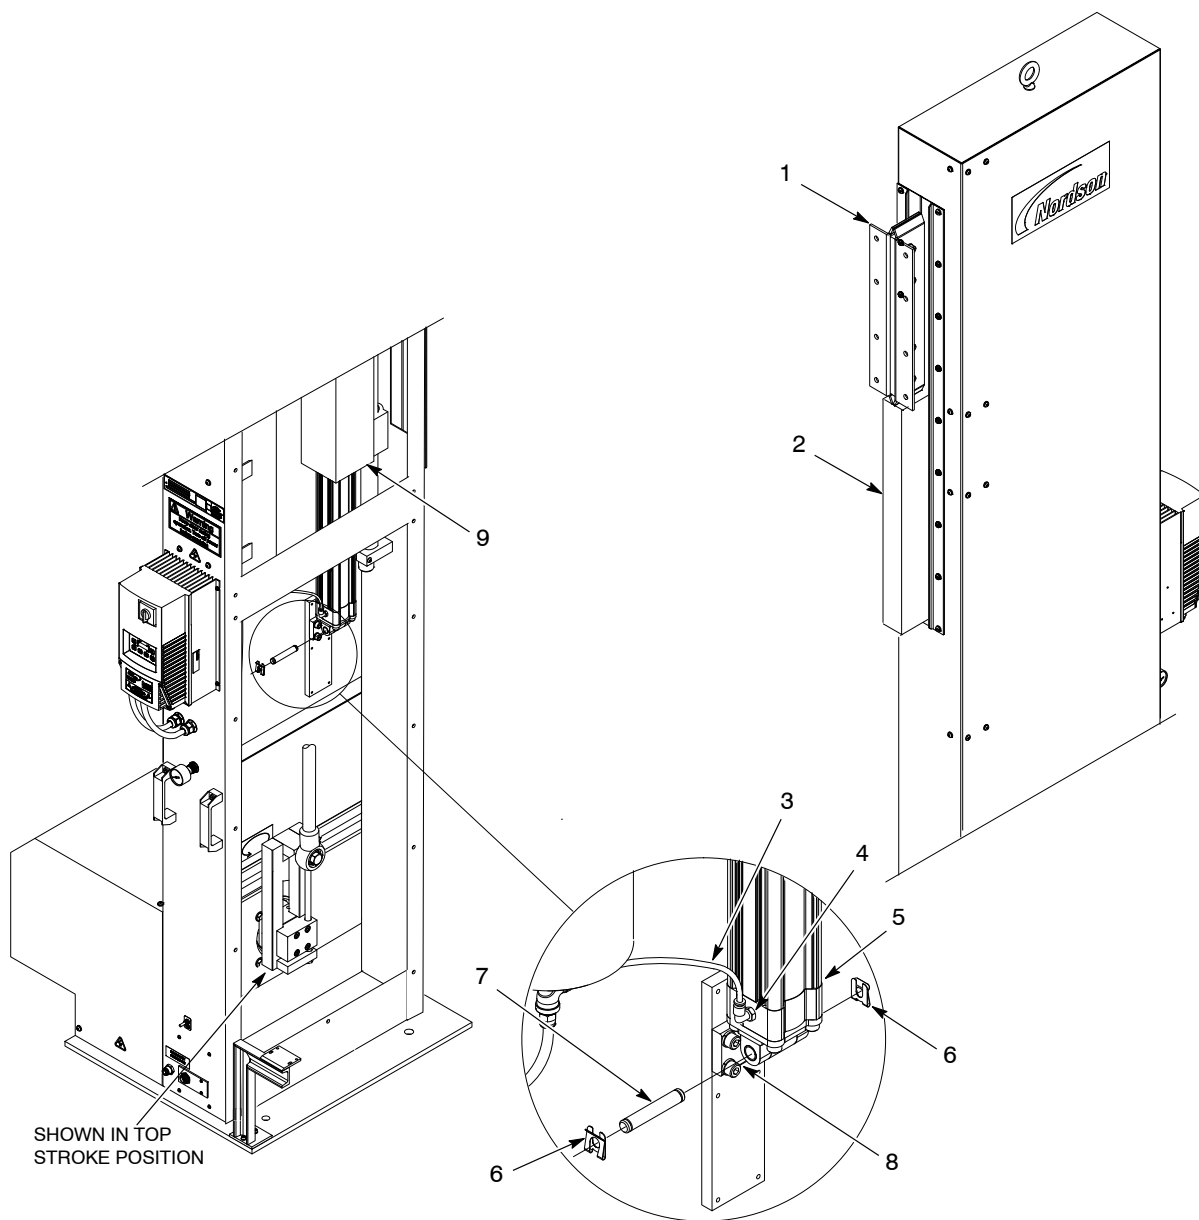

Figure 19 Installing the Air Cylinder
1. See Figure 19. Move the gun carriage (1) to the top stroke position. Use a block (2) as shown to secure the gun carriage (1).
2. Install the air cylinder into the bearing assembly mounting tube (9). Secure the air cylinder using the pin (7) and clips (6).
3. Connect the air line (3) to the air cylinder fitting (4).
4. Move the gun carriage (1) to the bottom stroke position by carefully removing the block (2). The gun carriage should drift downward.
5. Install the gun mount to the gun carriage (1) mounting bracket.
4. Remove the clips (6) and pin (7) securing the air cylinder (5) the bracket (8). Remove the air cylinder from the bearing assembly mounting tube (9).
- a. Remove the fitting (4), breather vent (10), washer (11), support plate (12), and lock nut (13) from the old air cylinder.
6. Install the new air cylinder (5) into the bearing assembly mounting tube (9). Secure the air cylinder using the pin (7) and clips (6).
7. Connect the air line (3) to the air cylinder fitting (4).
8. See Figure 19. Move the gun carriage (1) to the bottom stroke position by carefully removing the block (2). The gun carriage should drift downward.